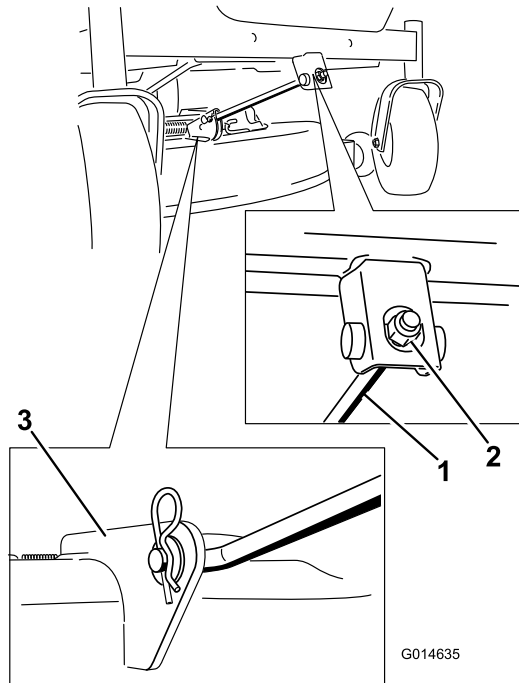

Figure 58
4. Remove the hairpin cotter from the front support rod and remove the rod from the deck bracket (Figure 58).
6. Attach the front support rod to the mower deck with the clevis pin and hairpin cotter (Figure 58).